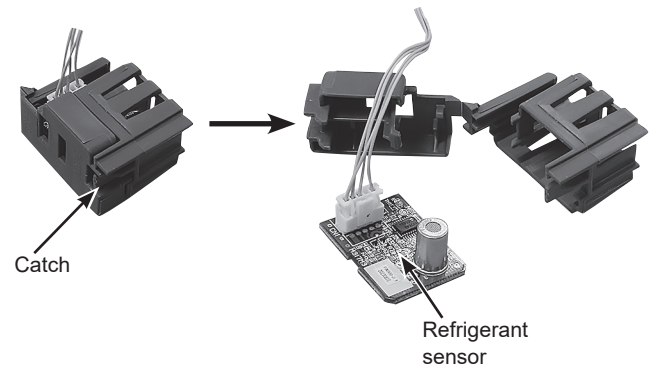

Figure 2
- (1) Connect the lead wire to the refrigerant sensor. (Figure 2)
- (2) Push the lead wire into the slit so that the refrigerant sensor does not press it.
- (3) Install the refrigerant sensor assembly as shown in the Photo 10.